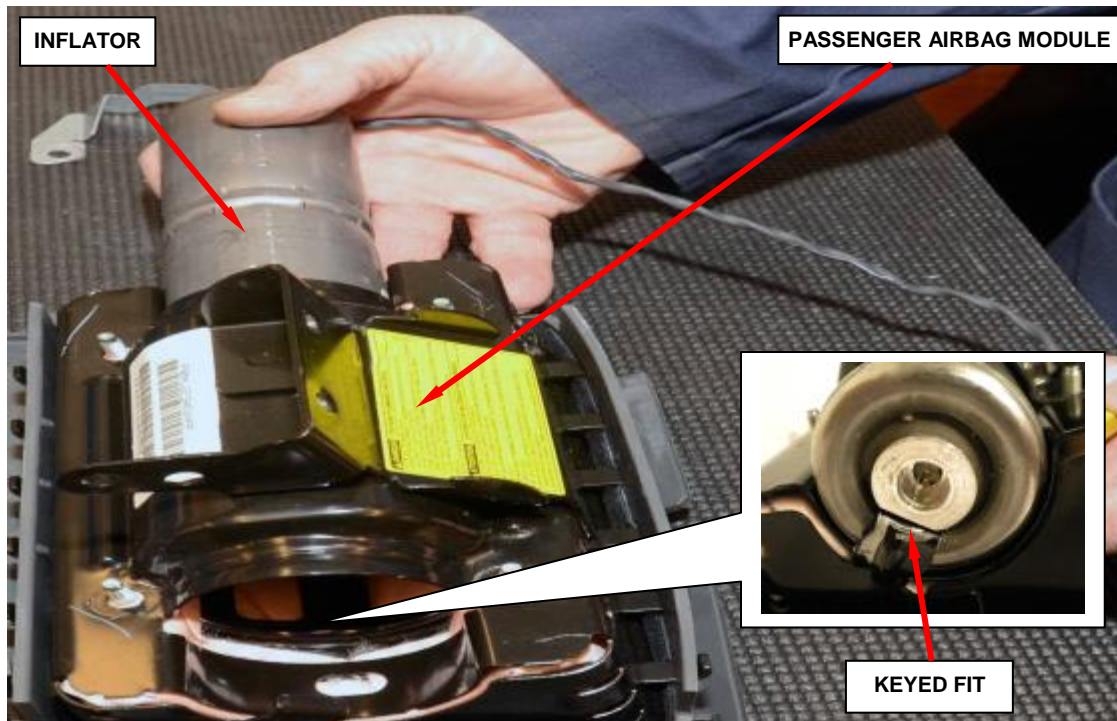

Figure 57 – Passenger Airbag Inflator to Housing
- f. Slide the inflator out of the passenger airbag module (Figure 57).
- g. Slide the new inflator into the passenger airbag module (Figure 57).
NOTE: The inflator is keyed to fit into the housing (Figure 57).